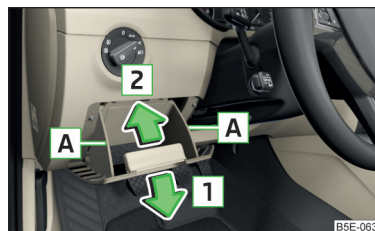

Fig. 343
- Hold the stacker laterally in the region [A] and open by pulling in the direction of arrow [1] (A greater force is required to open) » Fig. 343.